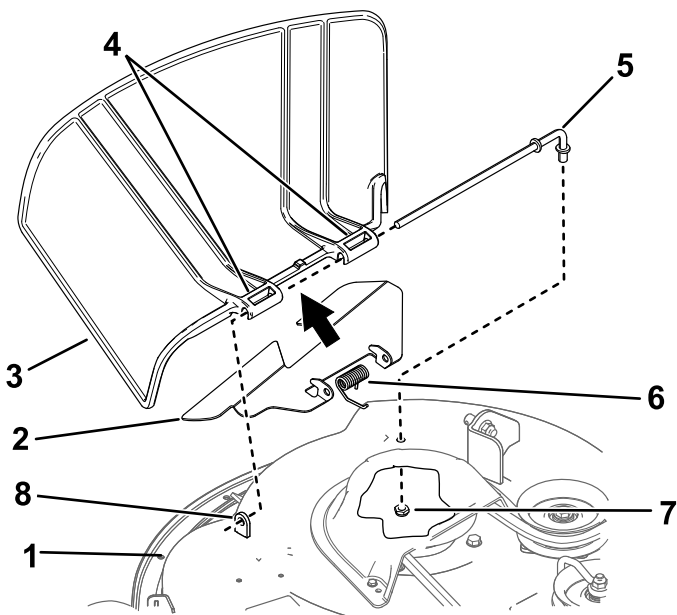

Figure 74
- Remove the nut (3/8 inch) from the rod under the mower (Figure 74).
- Slide the rod out of the short stand-off, spring, and grass deflector (Figure 74).
- Install the new grass deflector (Figure 74).
- Slide the rod through the second grass-deflector pivot (Figure 74).
- Secure the rear end of the rod into the mower with a nut (3/8 inch) as shown in Figure 74.